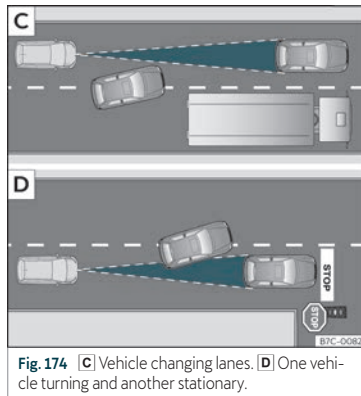

Fig. 174 [C] Vehicle changing lanes. [D] One vehicle turning and another stationary.
- Vehicles that move into your lane, a short distance from your vehicle»» Fig. 174 [C].
The ACC may not react to stationary vehicles. If, for example, a vehicle detected by the ACC turns or moves over and there is a stationary vehicle in front of it, the ACC will not react to the second vehicle»» Fig. 174 [D].